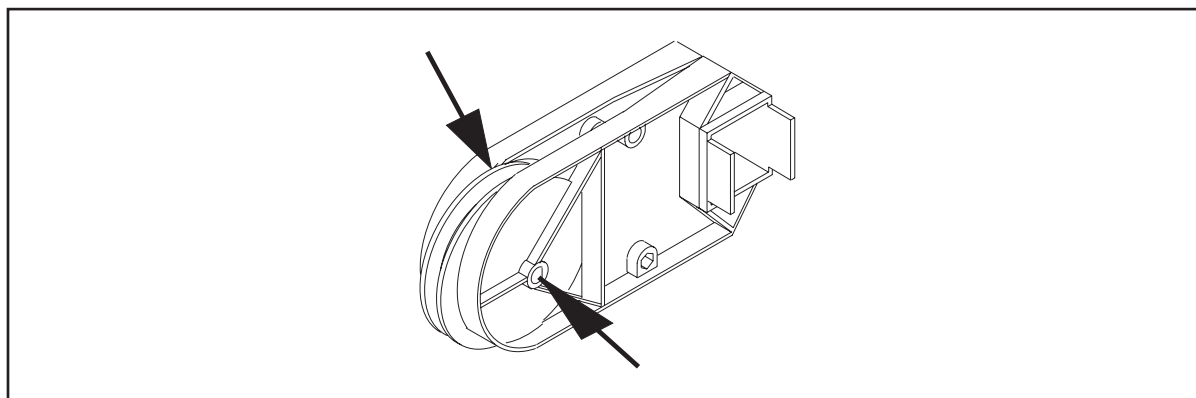

Figure 5-12. Oil & Grease String Wagon
- Apply grease to the string wagon roller shaft and a drop of oil between the string wagon roller and the string wagon housings. Refer to *Figure 5-12*.